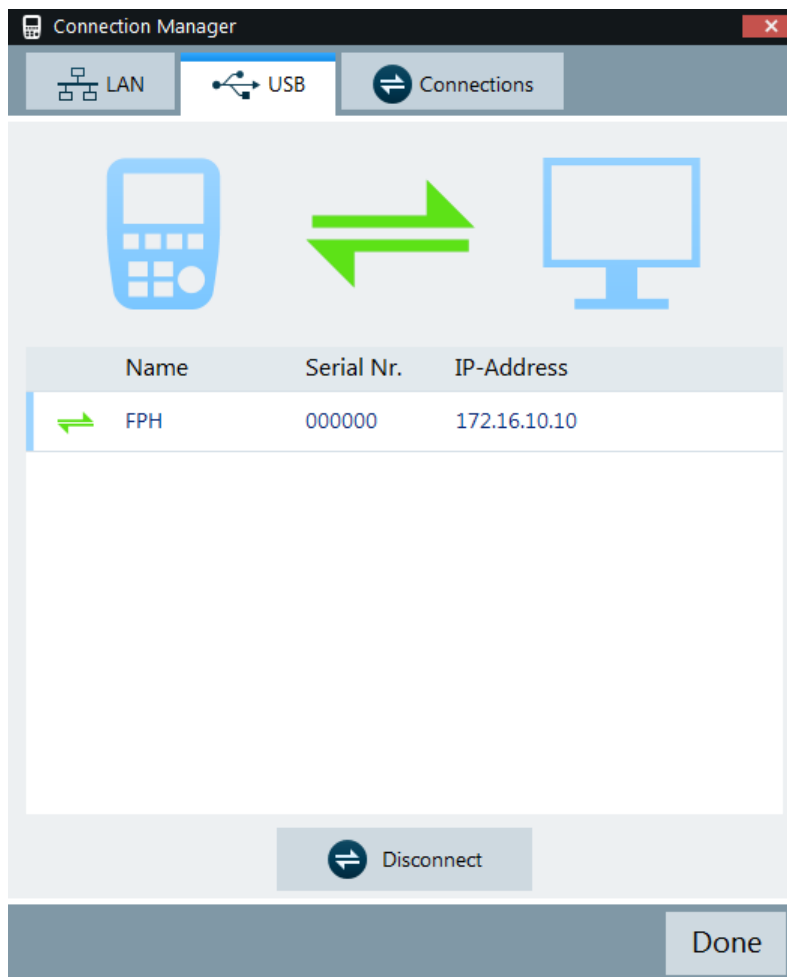

Figure 4-6: USB connection
3. There is only one USB instance in the connection manager list. See Figure 4-6.